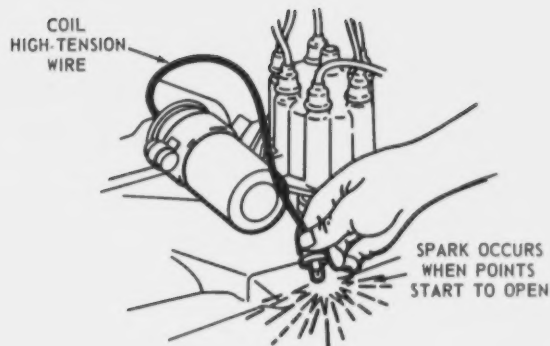

Fig. 68—Checking For When Distributor Points Start To Open
5. Place the distributor end of the coil high-tension wire $\frac{1}{8}$ -inch (3 mm) from the engine (Fig. 68). Turn ignition switch on. A spark will jump the gap as the distributor points start to open.